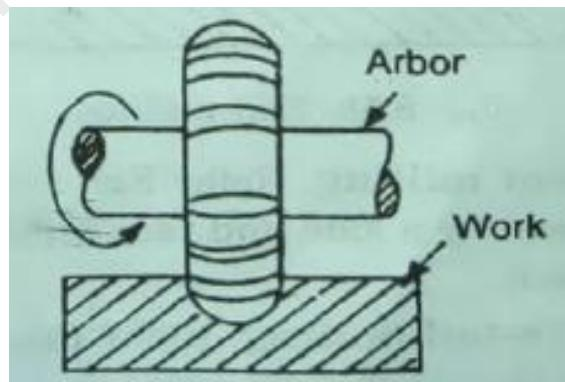

Fig. 8.55. Form milling.
- **Form milling:** This milling process (Fig. 8.55) is used for machining those surfaces which are of irregular shapes. The form milling cutter used has the shape of its cutting teeth conforming to the profile of the surfaces to be produced.